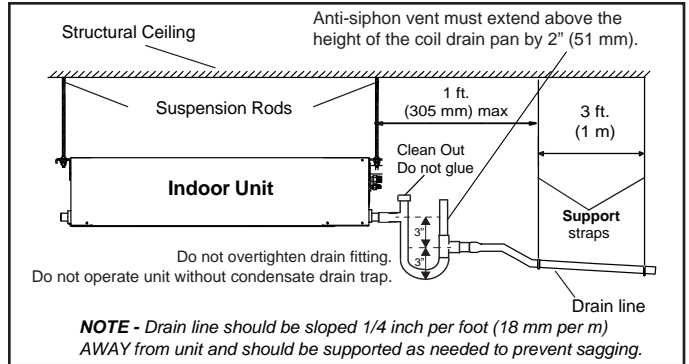

Figure 11. Sloped Condensate Drain -- Single Unit
3. See figure 11 for applications including a single unit and a single drain. In this case, ensure that the drain line is properly sloped (no less than 1/4 inch per foot) and condensate lines are routed to ensure moisture is drained away from the indoor unit.